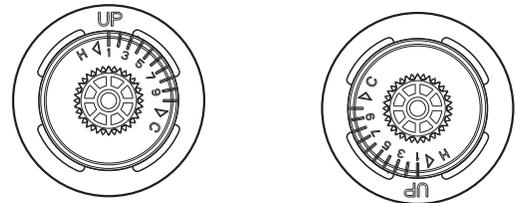

Figure 2.
### BACK TO BACK INSTALLATION (FIGURE 2, 3 & 3A)
- Rotate CARTRIDGE (1) 180° so that the Up text is displayed on the bottom side. As shown in FIGURE 2.